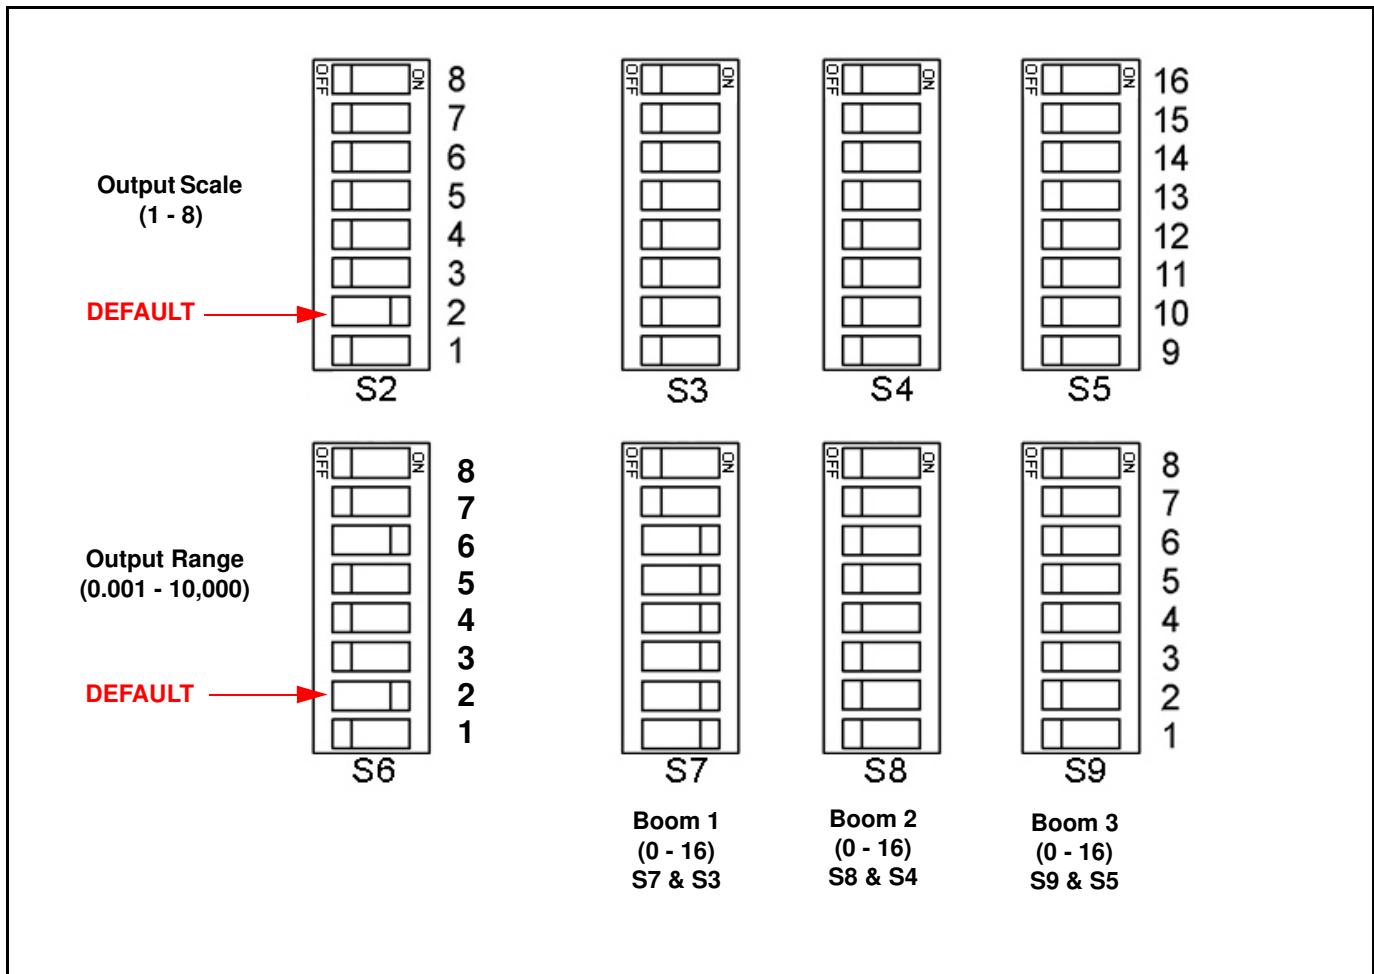

Figure 30
**[Figure 30] - Example:** Boom section one, if there are six valves used, turn on #1 through #6 DIP switches on S7.